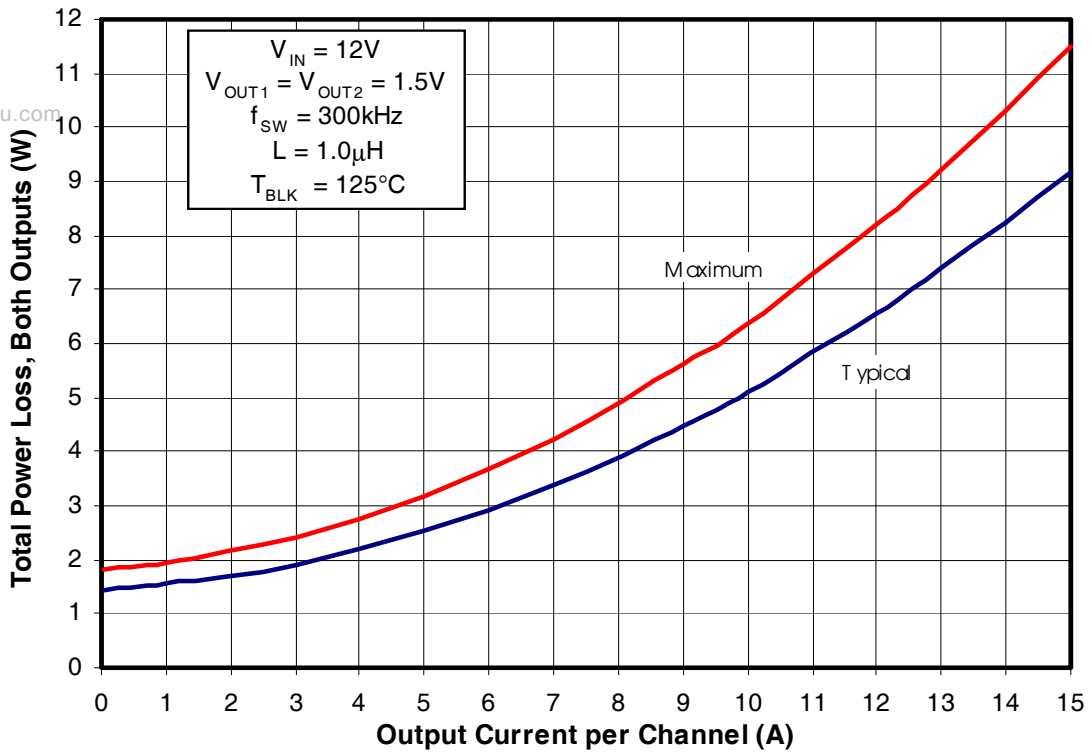
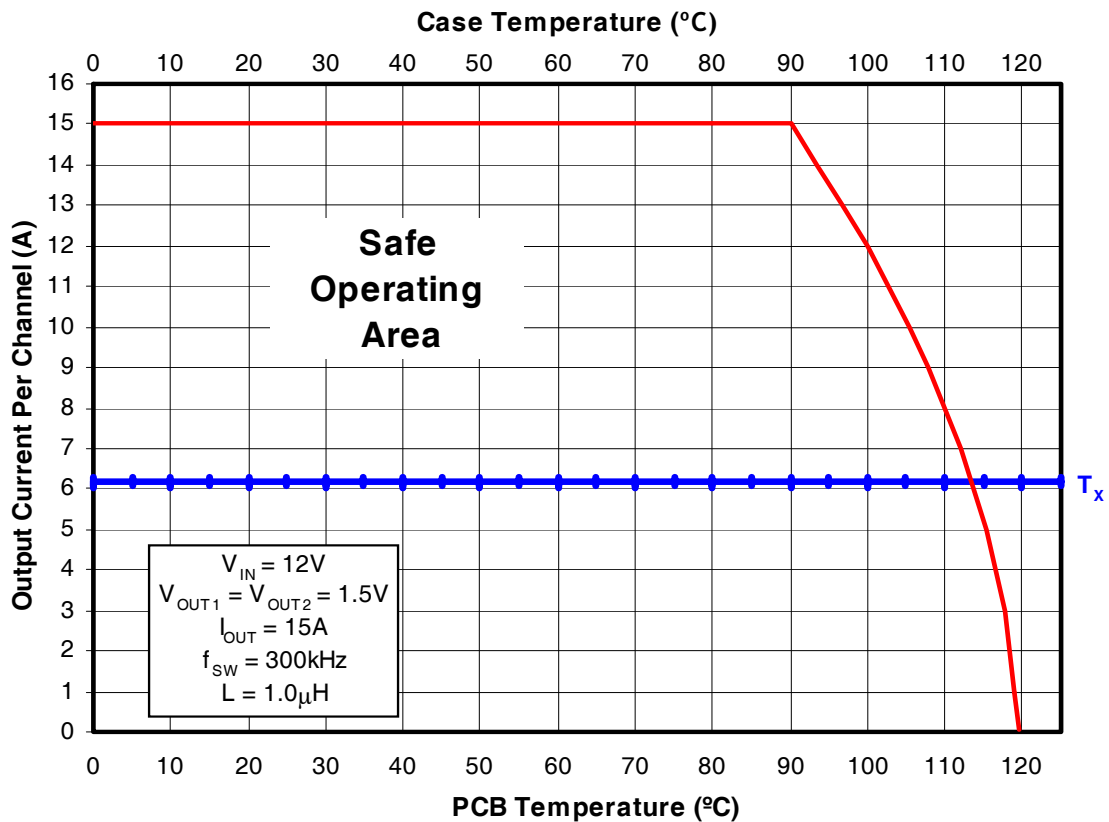
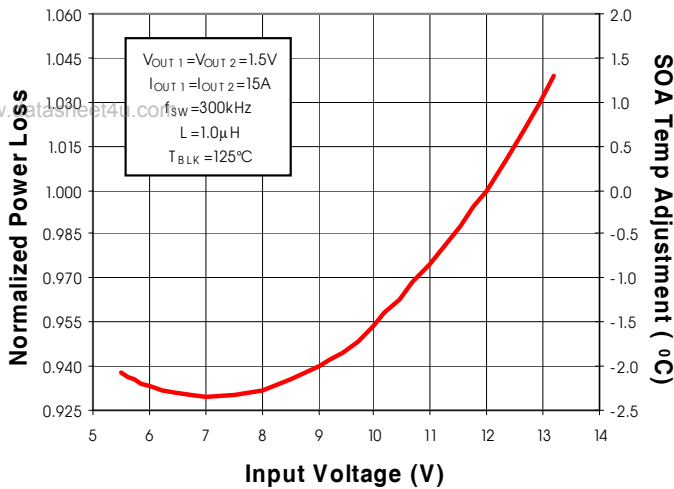

Fig. 2: Power Loss vs. Current
Fig. 3: Safe Operating Area (SOA) vs. T_{PCB} & T_{CASE}
Fig. 4: Normalized Power Loss vs. V_{IN}
To make adjustments to the power loss curves in Fig. 2, multiply the normalized value obtained from the curves in Figs. 4, 5, 6 or 7 by the value indicated on the power loss curve in Fig. 2. Remember that the power loss in Fig 2. is the power loss for 2 outputs operating with the same output voltage. If differing output voltages are used the initial power loss for each channel needs to be divided by 2. Then if multiple adjustments are required, multiply all of the normalized values together, then multiply that product by the value indicated on the power loss curve in Fig. 2. The resulting product is the final power loss based on all factors. See example no. 1.
To make adjustments to the SOA curve in Fig. 3, determine your maximum PCB Temp & Case Temp at the maximum operating current of each iP1202PbF. Then, add the correction temperature from the normalized curves in Figs. 4, 5, 6 or 7 to the T_x axis intercept (see procedure no. 2 above) in Fig. 3. When multiple adjustments are required, add all of the temperatures together, then add the sum to the T_x axis intercept in Fig. 3. See example no. 2.
- Output1 (Fig. 2) Maximum power loss = $W 8.25/2 = 4.125W$
(Fig. 4) Normalized power loss for input voltage ≈ 0.93
- Output2 (Fig. 2) Maximum power loss = $6.4W / 2 = 3.2W$
- Output1 (Fig. 4) Normalized SOA Temperature for input voltage $\approx -2.3^{\circ}C$
- Output2 (Fig. 4) Normalized SOA Temperature for input voltage $\approx -2.3^{\circ}C$